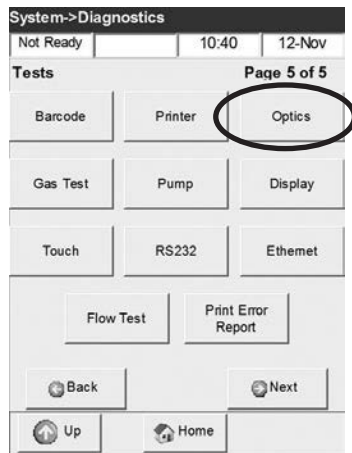

Fig. 7-15 Optics Test
- Press **<Optics>** to start the test (Fig. 7-15).